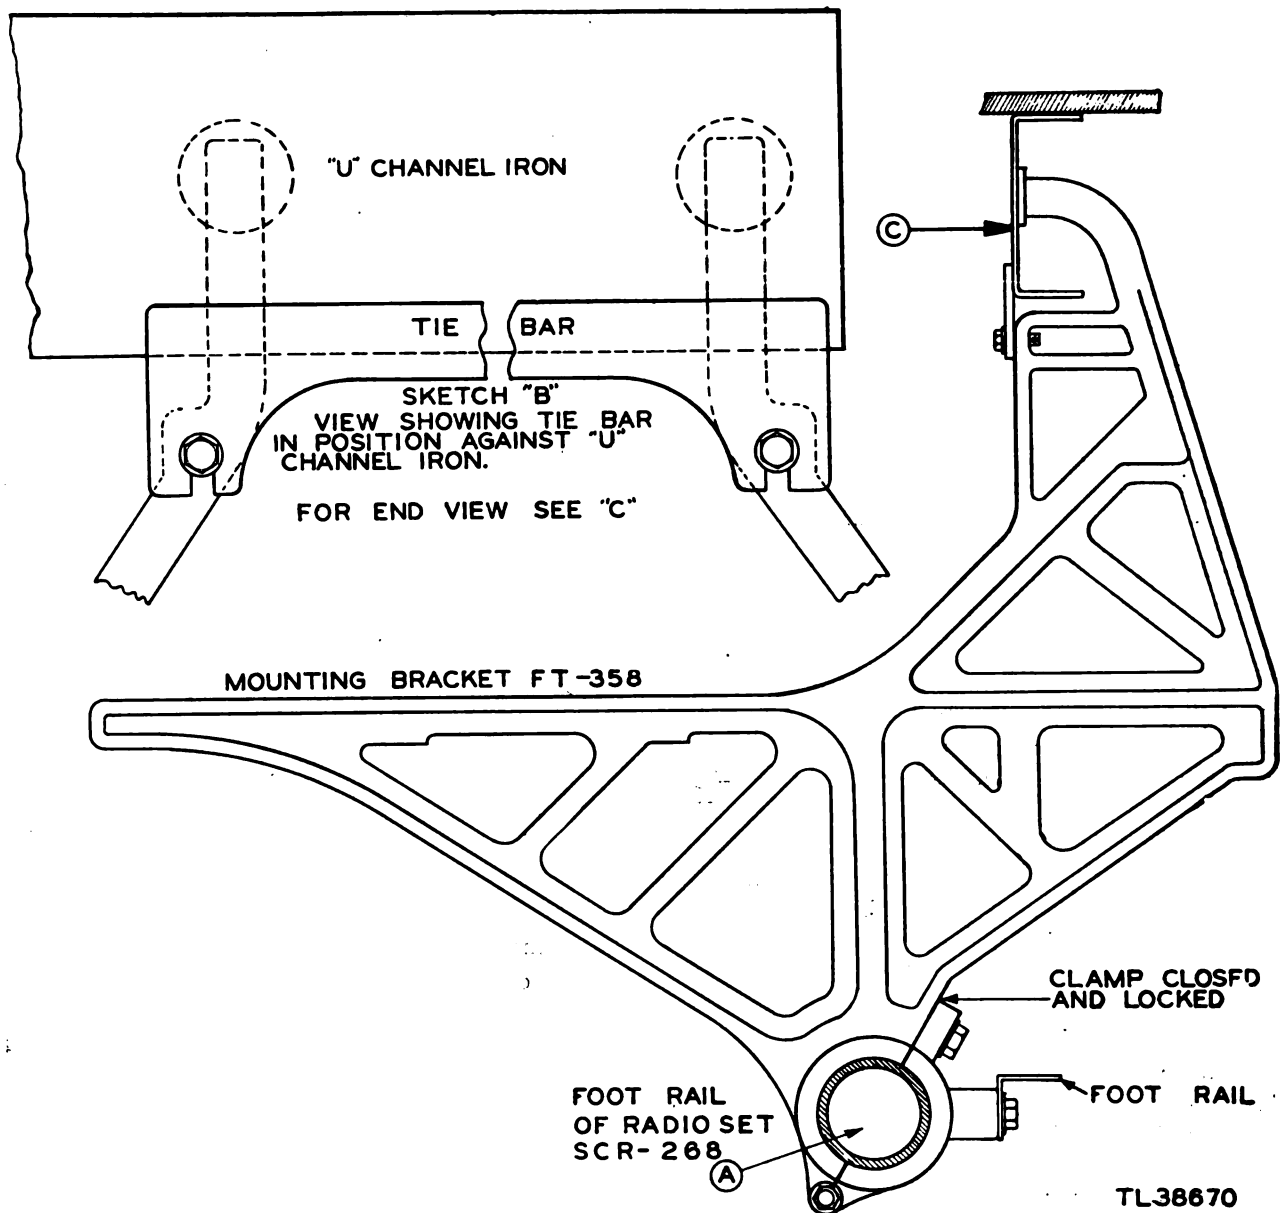

Figure 22. Mounting bracket assembled on footrail with bar in place.
d. Close the two split clamps and tighten the two captive screws, thus holding the mounting brackets firmly in place, figure 22.
e. Place the tie bar B as shown in figure 22. Place lockwashers on the two  $\frac{3}{8}$ -20 x  $1\frac{1}{8}$ " hex bolts; insert the bolts in the screw holes of the tie bar and firmly tighten, using a  $\frac{7}{16}$ -inch socket wrench. This tie bar holds the mounting brackets firmly against the U channel iron of the Radio Set SCR-268 oscilloscope shelf, and it also maintains the mounting brackets in a level position.